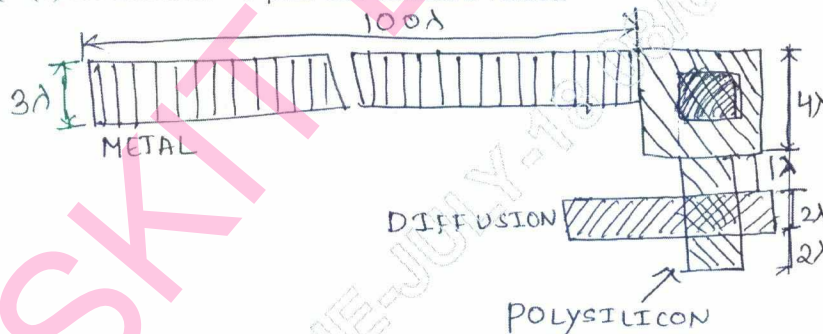

Fig. Q4 (c)
c. Calculate the total capacitance in picofarads between the substrate and structure as shown in Fig. Q4 (c) for $\lambda = 5 \mu m$. Use standard values. (08 Marks)